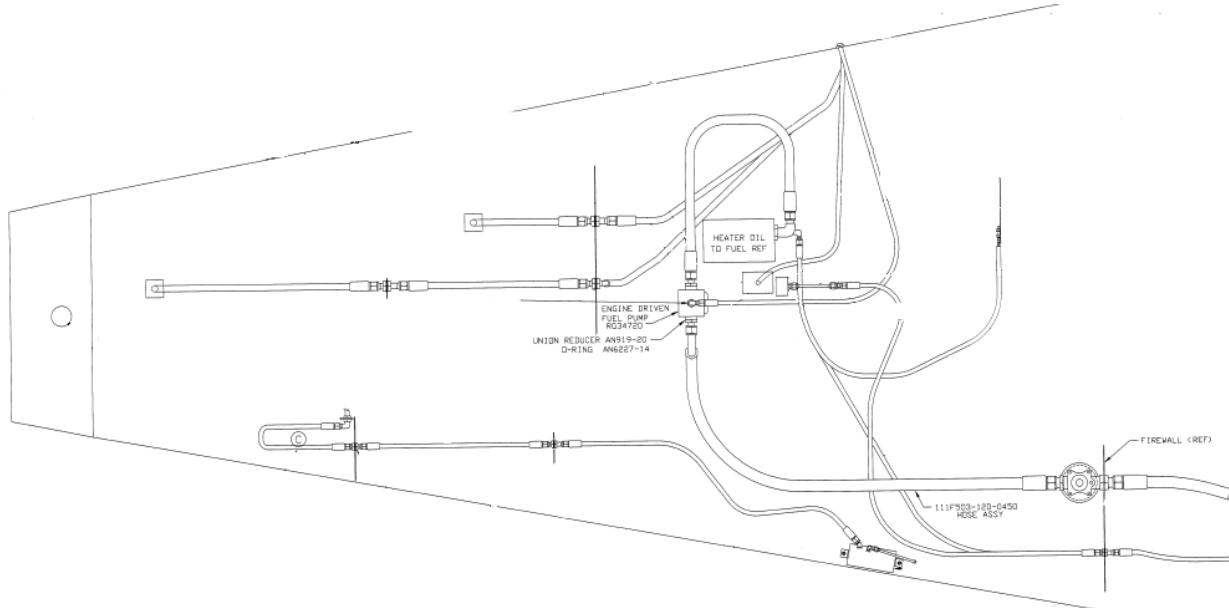

Figure 6
19. Connect hose from fuel filter assembly then route and connect to engine driven fuel pump. (Reference Figure 6)